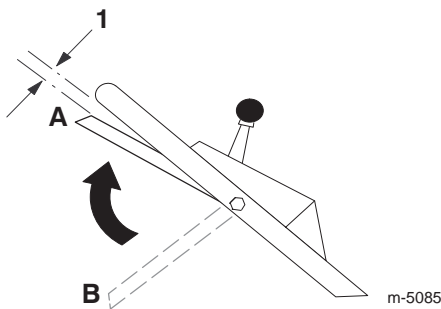

Figure 16
- Lift the blade control bail up to about one inch (2.5 cm) below the handle; refer to position **A** in Figure 16.